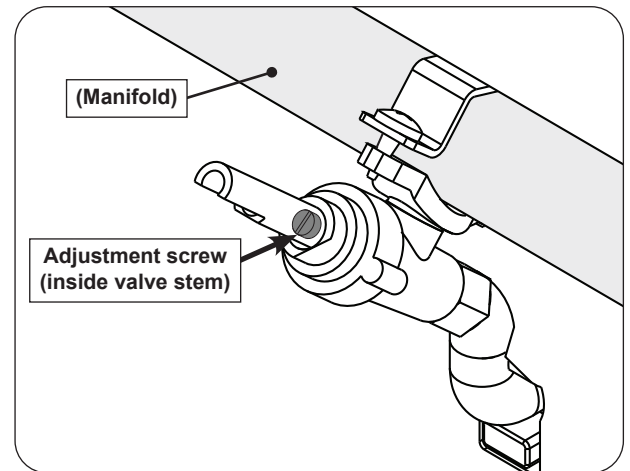

Fig. 51-1 Valve adjustment screw location
4. Locate the FLATHEAD adjustment screw found inside the valve stem (see Fig. 51-1).